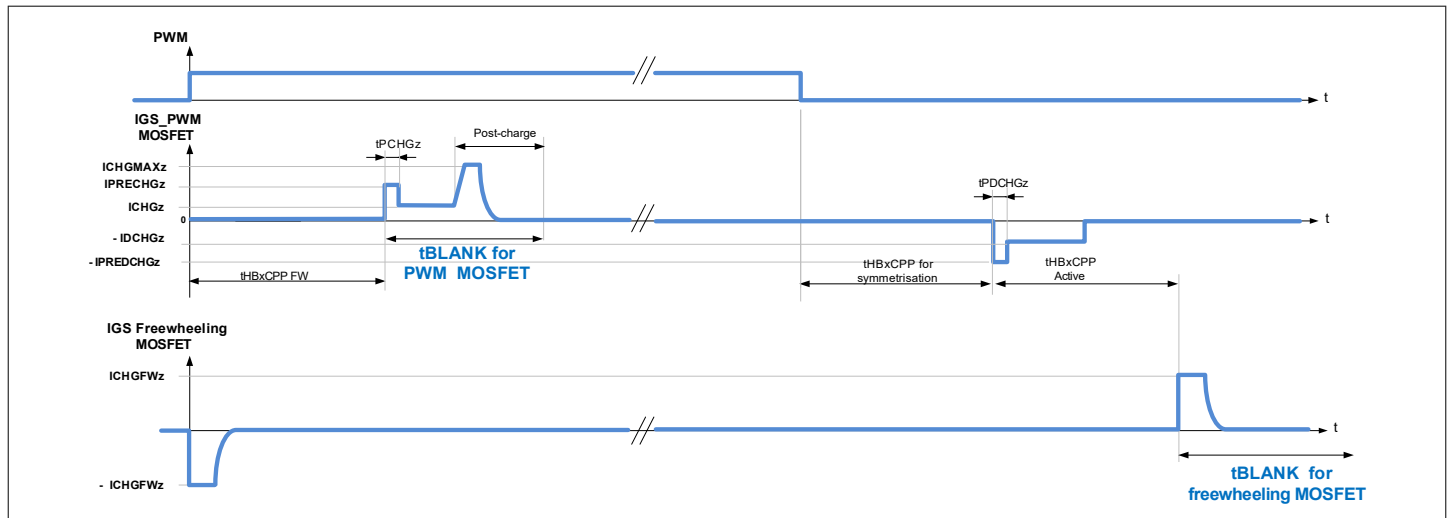

Figure 33 Blank time for half-bridges in PWM operation, detection of generator mode disabled (EN_GEN_CHECK = 0)
- The blank time of the PWM MOSFET starts at the expiration of the cross-current protection time of the FW MOSFET ($t_{HBxCCP\ FW}$). Refer to Figure 33.
- The blank time of the FW MOSFET starts after expiration of the cross-current protection time at turn-off of the PWM MOSFET ($t_{HBxCCP\ Active}$). Refer to Figure 33.